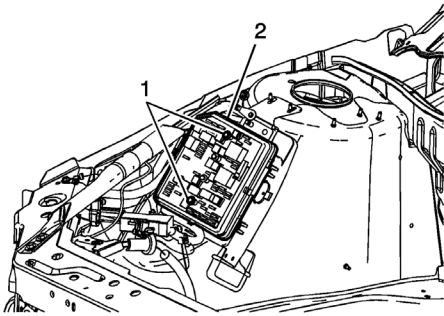

Fig. 3 Electrical center board fastener removal
4. Remove fasteners (1) securing electrical center board (2), **Fig. 3**.
7. Install fasteners (1) securing electrical center board (2), **Fig. 3**. **Torque** fasteners to 62 inch lbs.